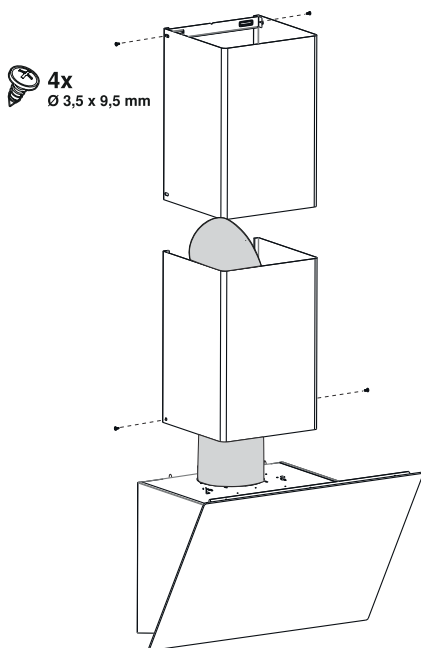

Fig. 14
- Screw the flue to the body from the right and left side (Fig. 14).